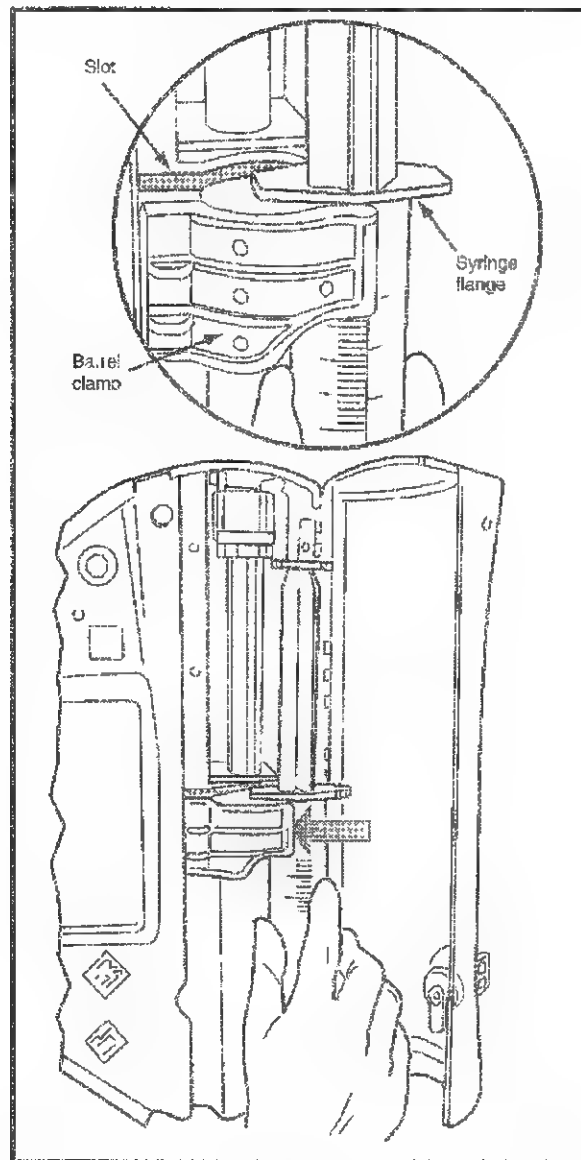

Figure 9
4. Slide the syringe barrel beneath the barrel clamp (refer to Figure 9). Do not pull forward on the barrel clamp.
5. The syringe is properly installed when the syringe flange rests in the slot of the syringe compartment base (refer to Figure 9, inset).